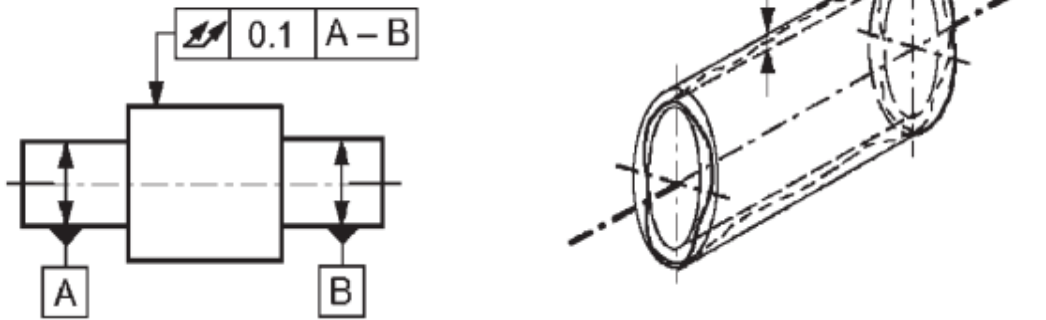

Figure Q7: Tolerance of Cylindrical surface Relative to Datum Axis A–B
7. State the meaning of the following Geometrical Tolerance statement(s) as seen on an engineering drawing depicted in **Figure Q7** below: